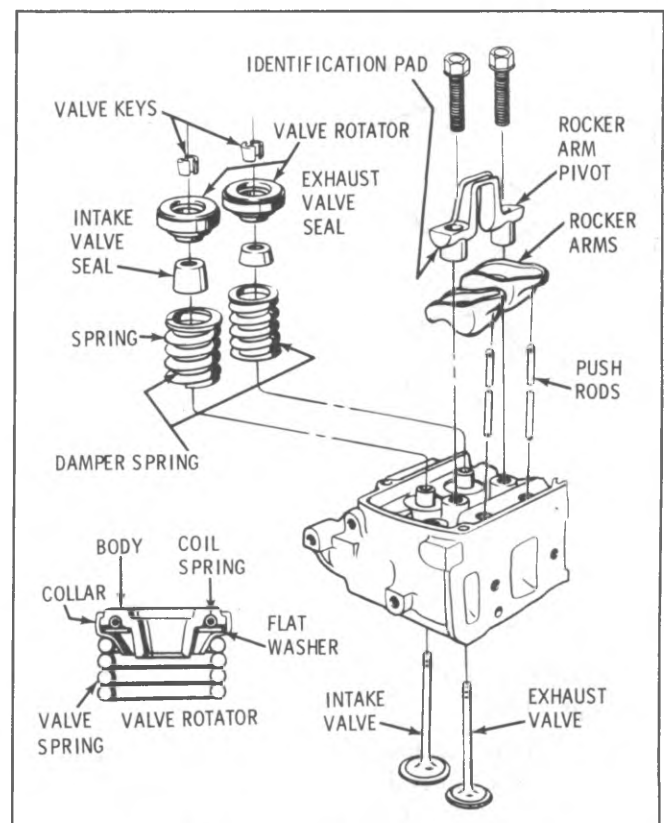

Fig. 6A3-38--Cylinder Head-Exploded View
a. Occasionally this noise can be eliminated by rotating the valve spring and valve. Crank engine until noisy valve is off its seat. Rotate spring. This will also rotate valve. Repeat until valve becomes quiet. If correction is obtained, check for an off square valve spring. If spring is off square more than $1/16$ " in free position, replace spring. (Fig. 6A3-37).